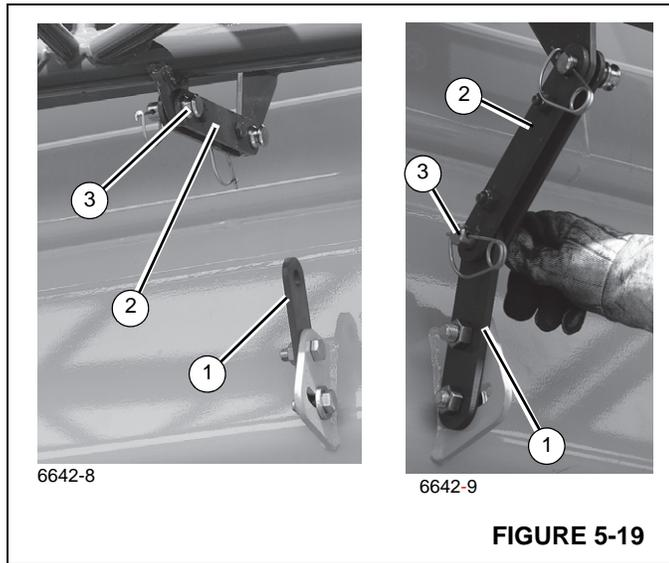

FIGURE 5-19
11. Move locking bar (9, Figure 5-26; 2, Figure 5-19) to boom base attachment bar (1) and install pin (3). Secure with retaining clip.